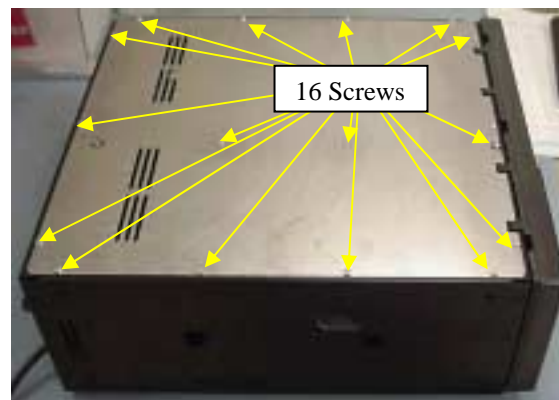

Figure 2
2. Remove the 16 screws holding the chassis shield. Set aside screws and shield. (Fig. 2)